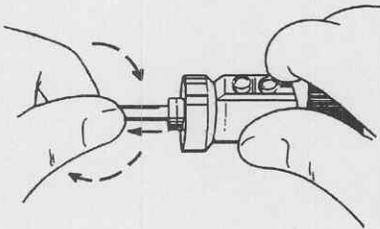

Figure 2-23. Cutter/bur removal for cleaning.
- (1) Ensure the electrical power cable assembly is disconnected from the electrical wall receptacle and the APS.
- (2) Wipe the APS console with a cloth or sponge dampened with water, a mild detergent, or an alcohol/water solution. Do not use 100% alcohol or other solvents that may damage APS console front panel markings. Do not immerse it in a liquid.
- (3) Dry the APS console with a clean soft cloth.
- (4) Remove the cutter or bur (fig 2-23) from the handpiece before cleaning.